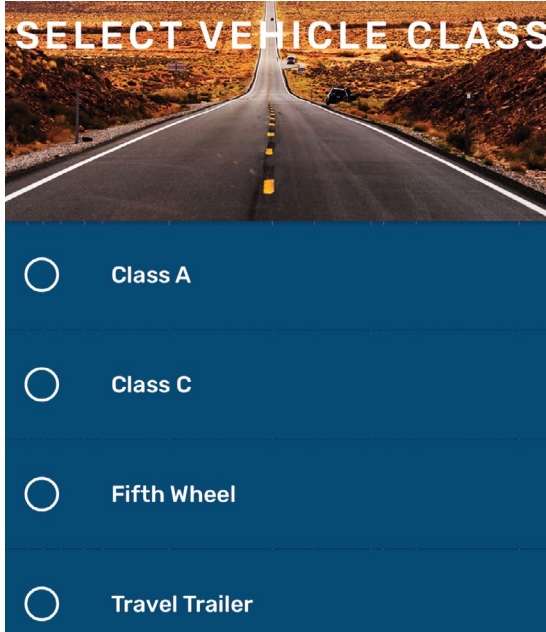

Fig.8
7. Select a vehicle class (Fig.8) and press continue.